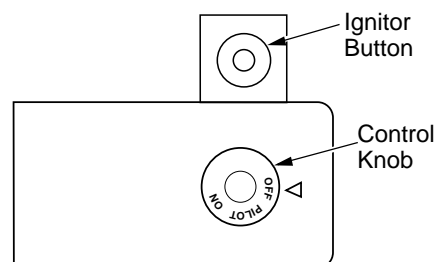

Figure 17 - Control Knob and Ignitor Button Location (Shown as Supplied, No Control Options)
5. Wait five (5) minutes to clear out any gas. Then smell for gas, including near the floor. If you smell gas, **STOP!** Follow "B" in the safety information, above. If you don't smell gas, go to the next step.
6. Press in and turn control knob counterclockwise  to the PILOT position. Press in control knob for five (5) seconds (see Figure 17).